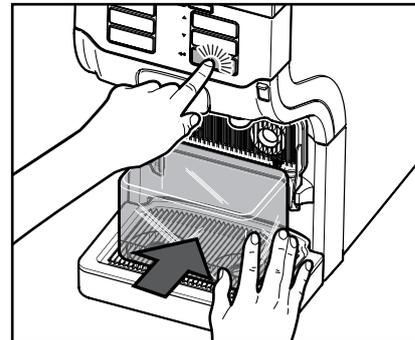

Fig. 47
5. Place the flush bin under both product outlets and press the enter button ↵ (fig. 47).